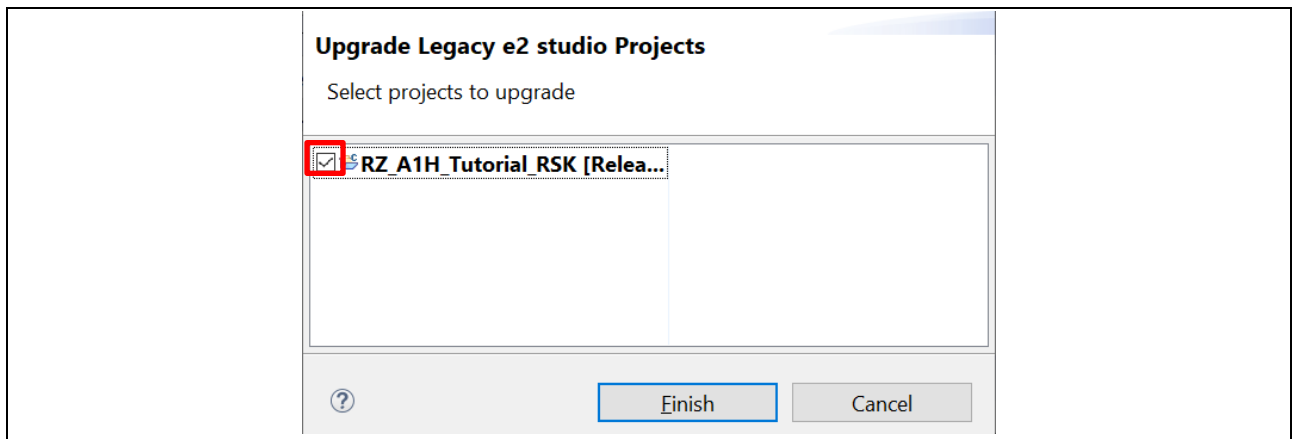

Figure 3-5. Migration Required Dialog Box
6. Select the projects to upgrade and click **Finish** (Figure 3-5).